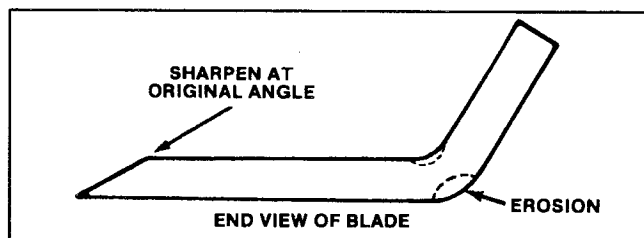

Figure 16
Check cutter blade every time rider is tipped on end. If bolt holding blade is loose, tighten it to 45–60 ft-lb. If blade or sail (Fig. 16) at end of blade is worn, eroded, or cracked, replace the blade. Replace the blade if it is bent or out-of-balance. Always use genuine TORO replacement blade to ensure safety and best performance. NEVER USE WILL-FIT REPLACEMENT BLADE.
7. Using a file, sharpen cutting edge at both ends of the blade (Fig. 16).
7. Since rider is tipped on end, check condition of blade (Fig. 16).